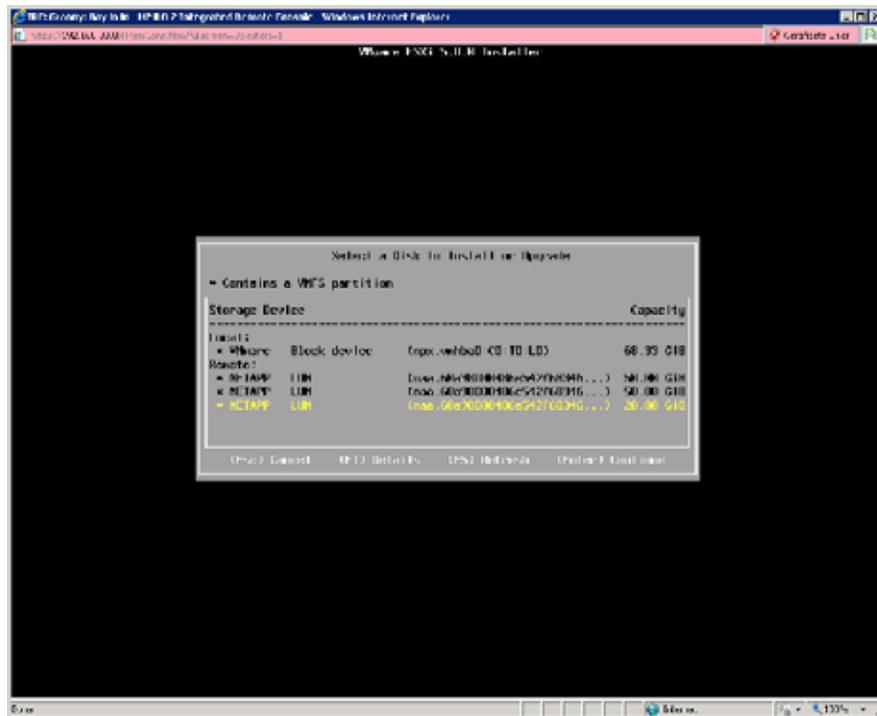

Figure 7 Select a Disk for Booting
Step 6 On the Select a Disk to Install or Upgrade dialog, select the LUN on which the SAN Boot vHBA is connected. Figure 7 on page 37 show an example of this dialog.